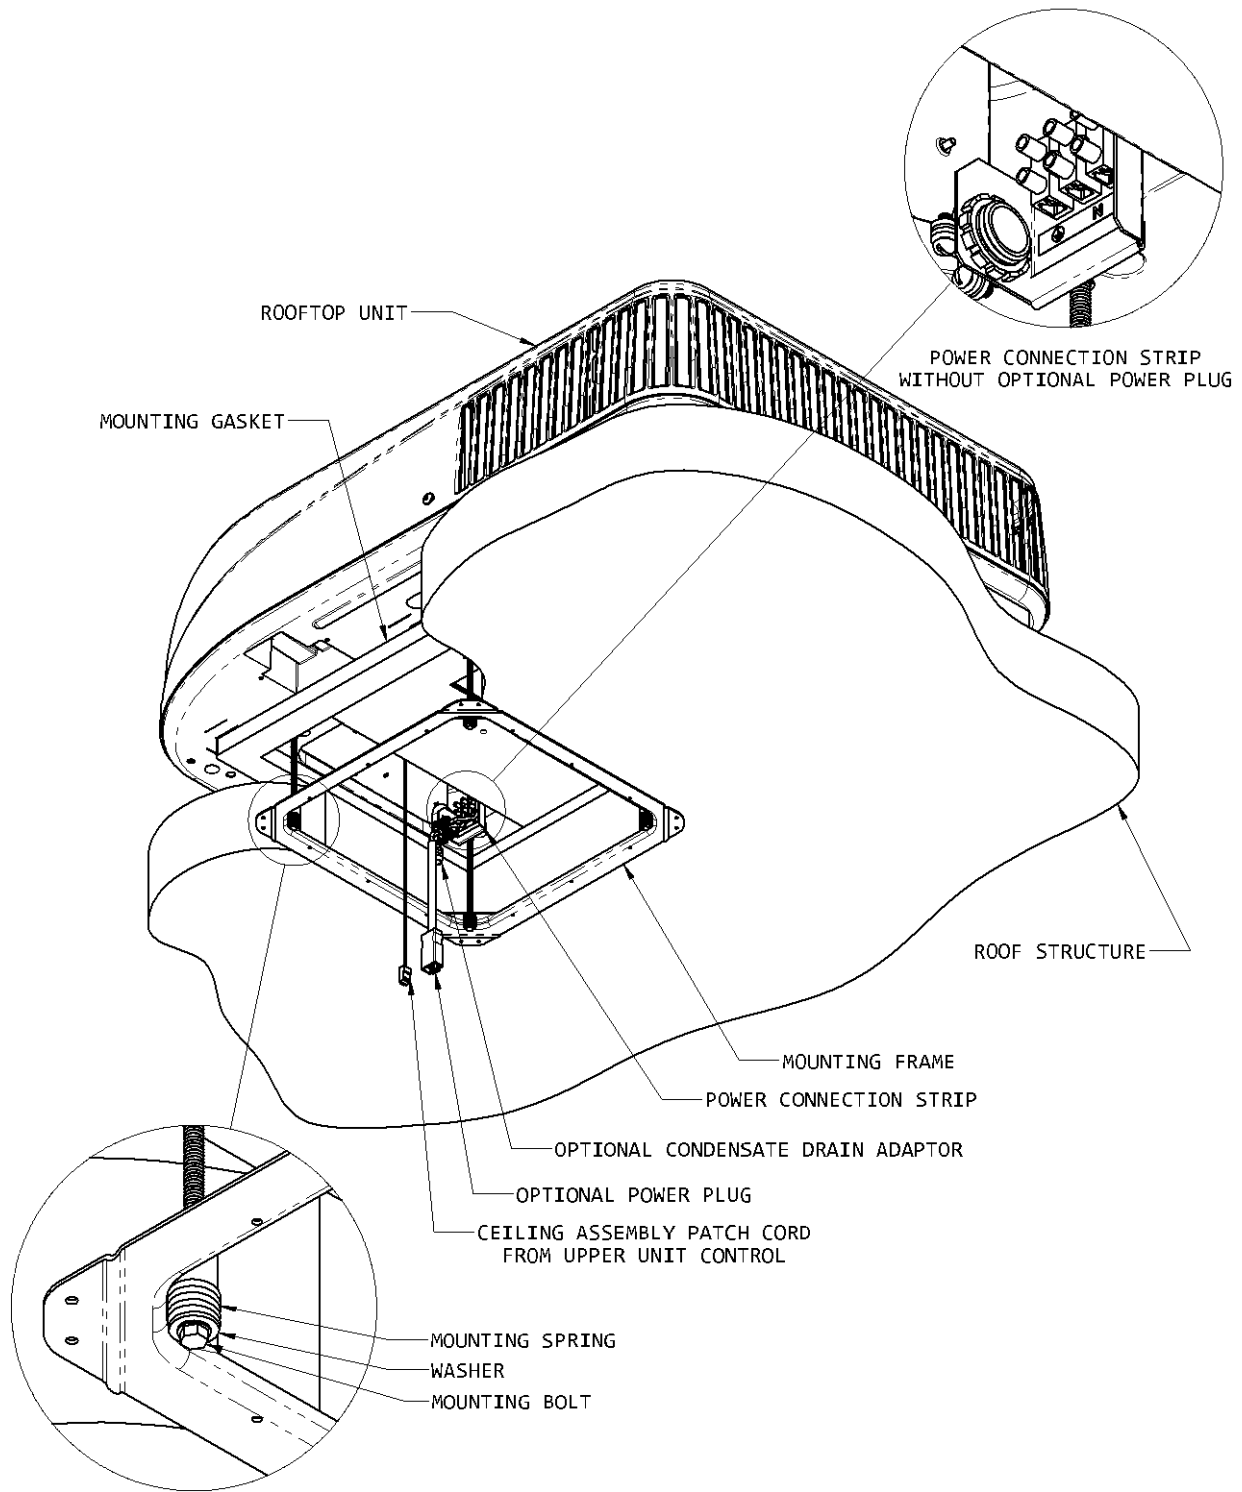

FIGURE 4
See Figure 4
- C. Proper tension has been achieved for each bolt when the spring coils have just come together (See Figure 4). The upper unit has now been properly installed with optimum gasket compression.
- D. If the heat pump is equipped with an optional evaporator condensate pump, a 13 mm I.D. hose must be provided that runs from the 356 mm square opening, through the vehicle ceiling and down the side wall to allow water to drain under the vehicle. The hose must not be allowed to kink shut while making a bend. Connect the top end of the drain hose to the barbed fitting shown in Figure 4.